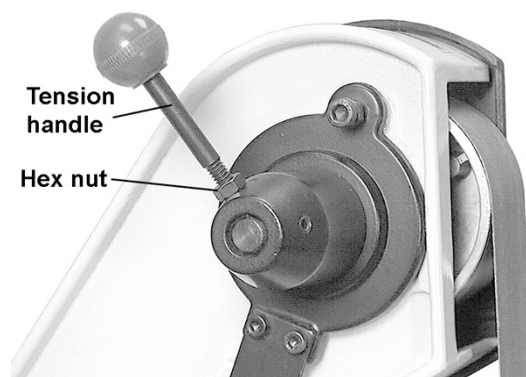

Figure 6
2. Screw the tension handle into the hole on the hub, then tighten the hex nut against the hub. See Figure 6.
4. Rotate the tension handle (Figure 6) to loosen the belt and remove the old belt from around the wheels.